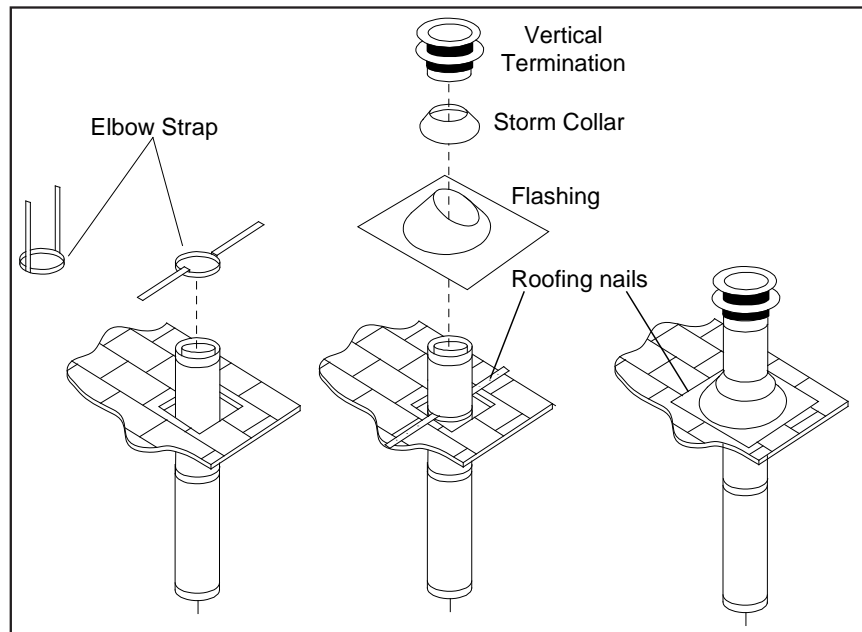

Figure 38. Vertical Vent Termination
- STEP 6.** Once the pipe sections have been joined, and run up through the hole in the roof, slip an elbow strap over the exposed sections, bend the support straps outwards, and push the elbow strap down to the roof level, as shown in Figure 38. Tighten the clamp around the pipe section. Use a level to make sure the pipe is truly vertical. With roofing nails, secure the support straps to the roof. Seal the nails holes heads with non-hardening mastic. Trim the excess length of the support straps that extend out beyond the edge of the flashing.
- STEP 9.** Slip the storm collar over the pipe, and push it down to the top of the roof flashing as shown in Figure 38. Use the non-hardening sealant around the joint between the pipe and the storm collar.